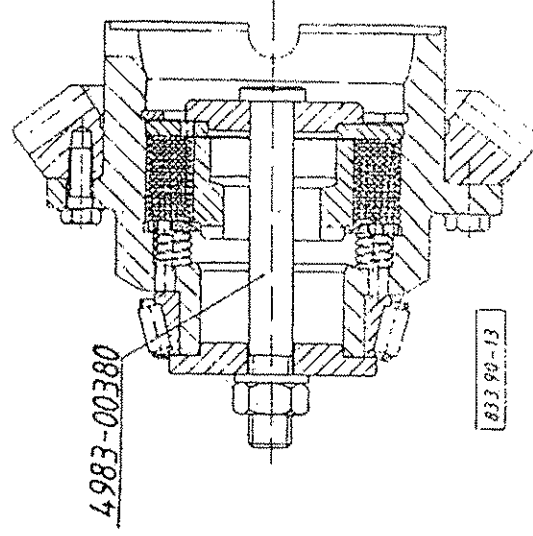

Fig. 1:
By means of the device shown, pull the disks together to bottom out securing the spring force and remove the snapping (47). (Fig. 1.).